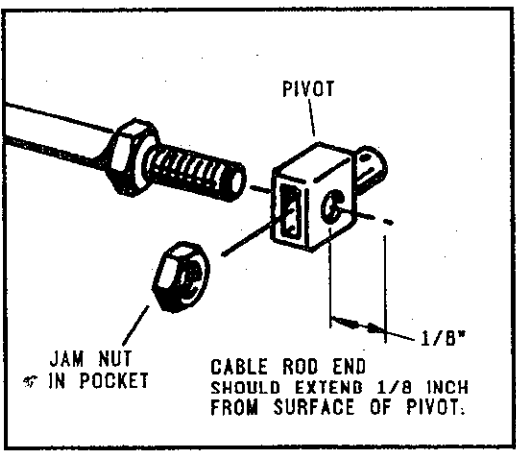

FIGURE 3 CABLE TERMINAL CONNECTION
1. Attach the Pivot to the end of the Shift cable, as shown in Figure 3.